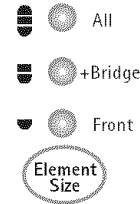

Figure 7
4. Select the **FRONT** (See Figures 3 & 4), **+BRIDGE** (See Figures 5 & 6) or **ALL** 3 elements (See Figures 7 & 8) to heat by pressing the  pad once, twice or three times. When the bridge is set to **ALL** setting, the display of the left rear element changes to reflect the same setting as the left front element.